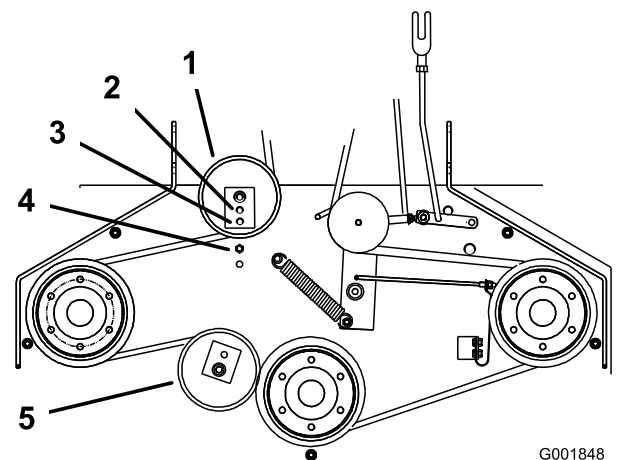

Figure 54
6. If there is no adjustment left in the turnbuckle and the belt is still loose, the rear idler pulley needs to be positioned to the middle or front hole (Figure 54). Use the hole that will give the correct adjustment.
7. When the idler pulley is moved the belt guide must be moved. Move the belt guide to the front position (Figure 54).